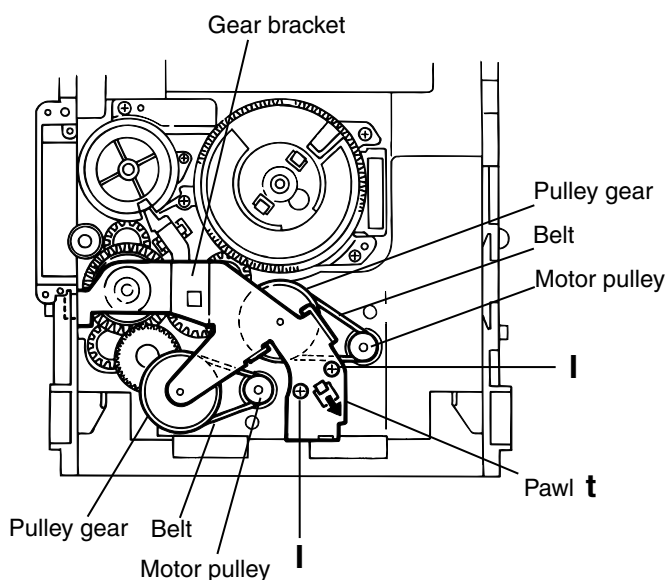

Fig.18
4. While turning the cam gear "q", align the Paul "s" position of the select lever to the notch position(Fig.18) on the cam gear "q".
5. Remove the four screws **H** retaining the cam unit(cam gear "q" and cams R1/R2 assembly)(See Fig.18).
■ Removing the actuator motor and belt (See Fig.18~21)
(See Fig.18).
4. Remove the belts respectively from the right and left actuator motor pulleys and pulley gears(See Fig. 18).